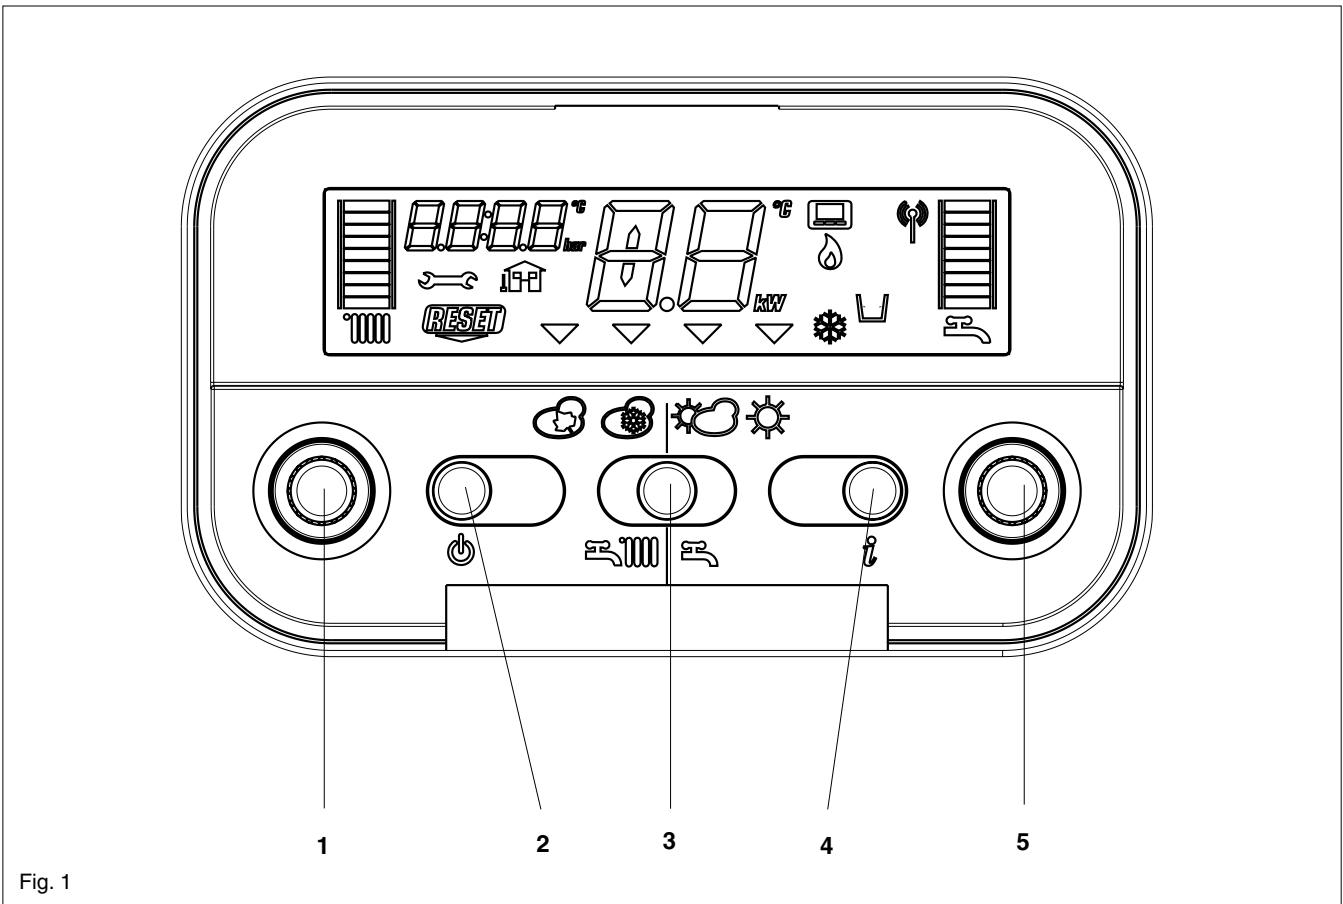

Fig. 1
2.2 APPLIANCE CONTROLS (see fig. 1)
Using figure 1 as a guide, locate and press the ON/OFF selection button if the appliance isn't already switched on. The boiler will now go through a self-test sequence. On completion of the self-test sequence, the boiler will be ready to provide heating and/or hot water if required.